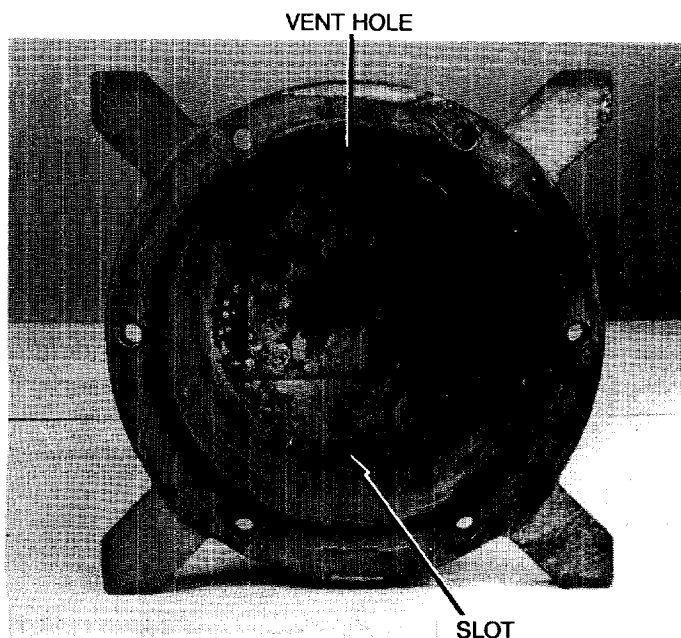

FIGURE 25 - Interior of Purge Drum (Viewed from Either End)
- e. Clean the small vent hole at the top of the divider plate; this hole must be open. Refer to Figure 25 for vent hole location.